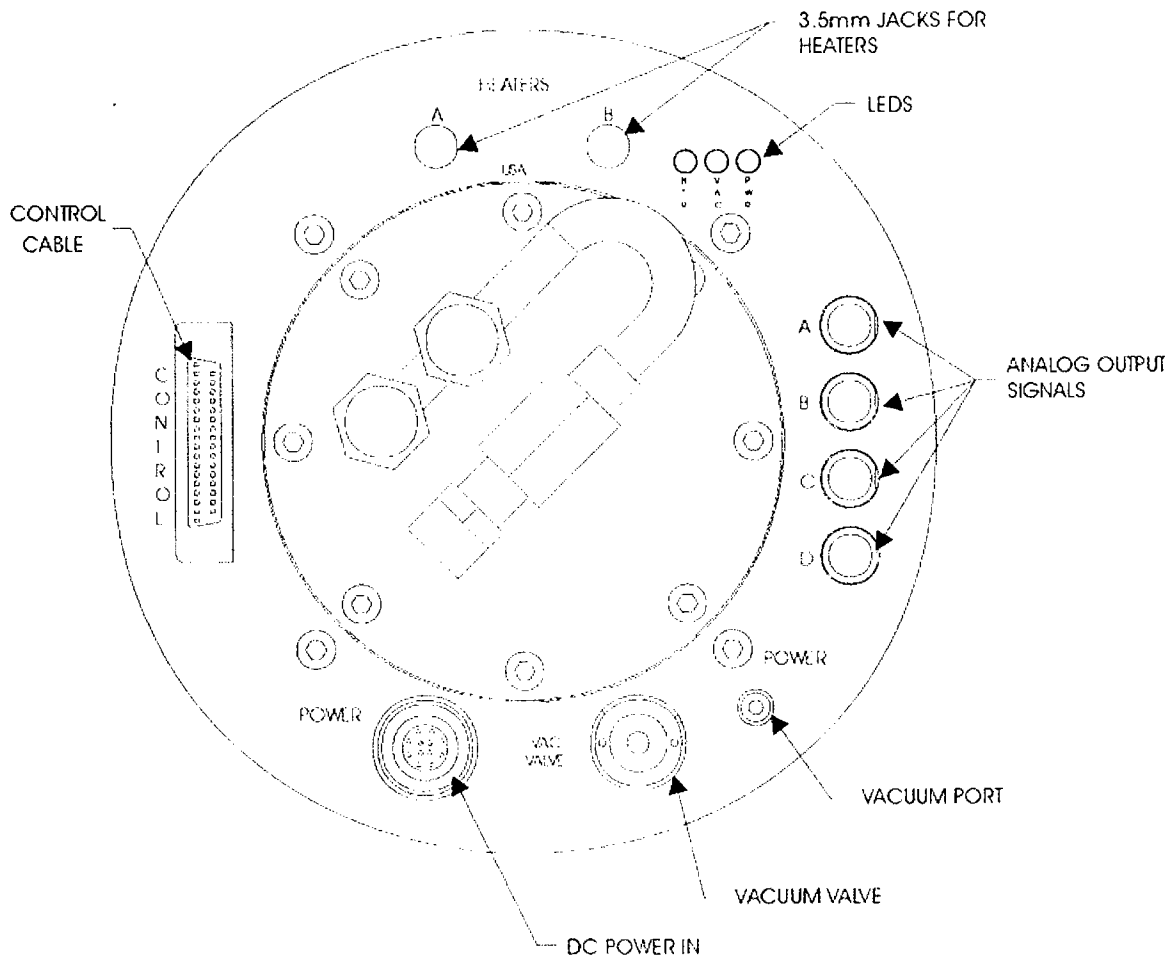

Figure 30 - MarCCD detector head diagram
- Connect cable bundle as labeled in Figure 30: